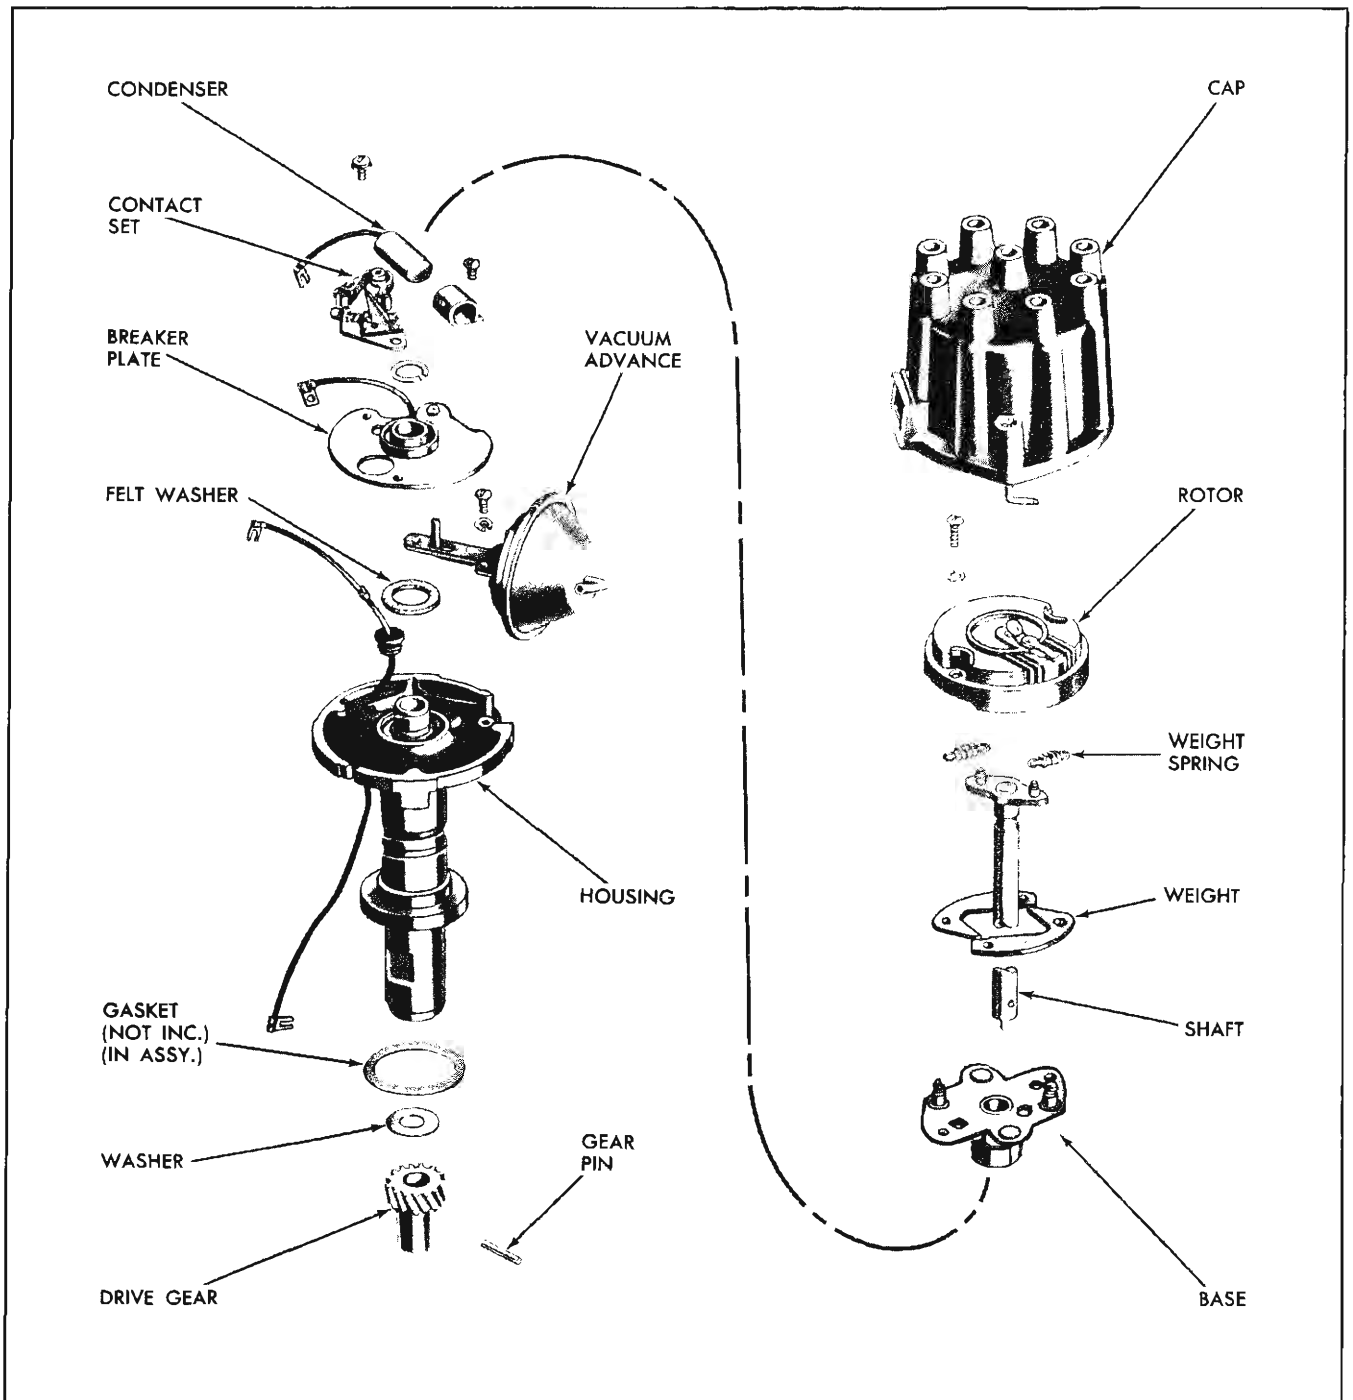

Fig. 11-44 V-8 Engine Distributor—Exploded View
1. Remove the rotor by removing the two attaching screws, lock washers, and flat washers (Fig. 11-44).